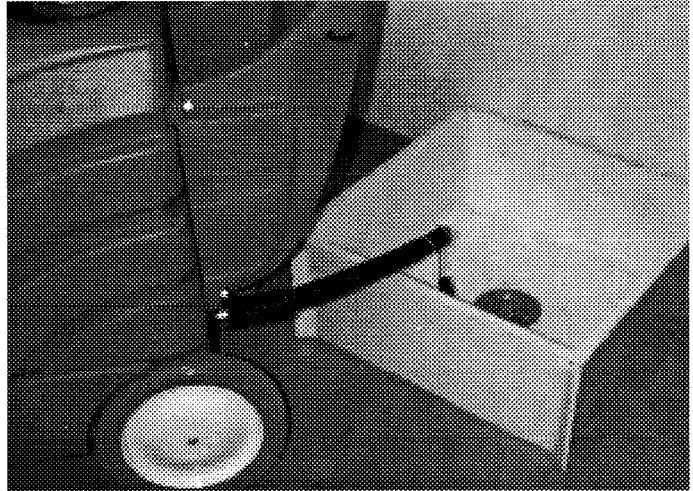

Fig. 8
2. Remove drain hose from holder, position hose over floor drain and twist off knob to drain. (Figure 8)